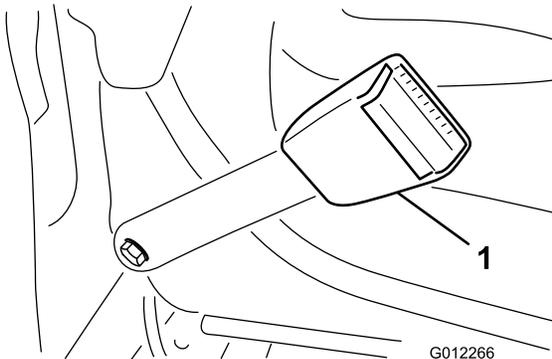

Figure 6
1. Assemble end of each seat belt halves to the holes in the back of the seat with 2 bolts (7/16 x 1 inch), flat washers (7/16 inch), and lock washers (7/16 inch) (Figure 6).